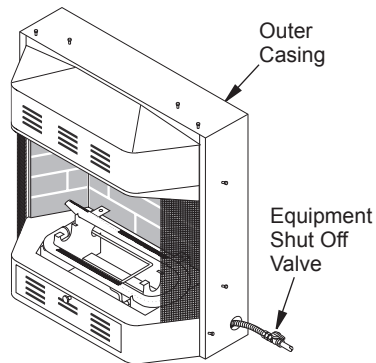

Figure 21 - Routing Flexible Gas Line
1. Route flexible gas line (provided by installer) from equipment shutoff valve into fireplace through side or rear access holes in outer casing (see Figure 21).